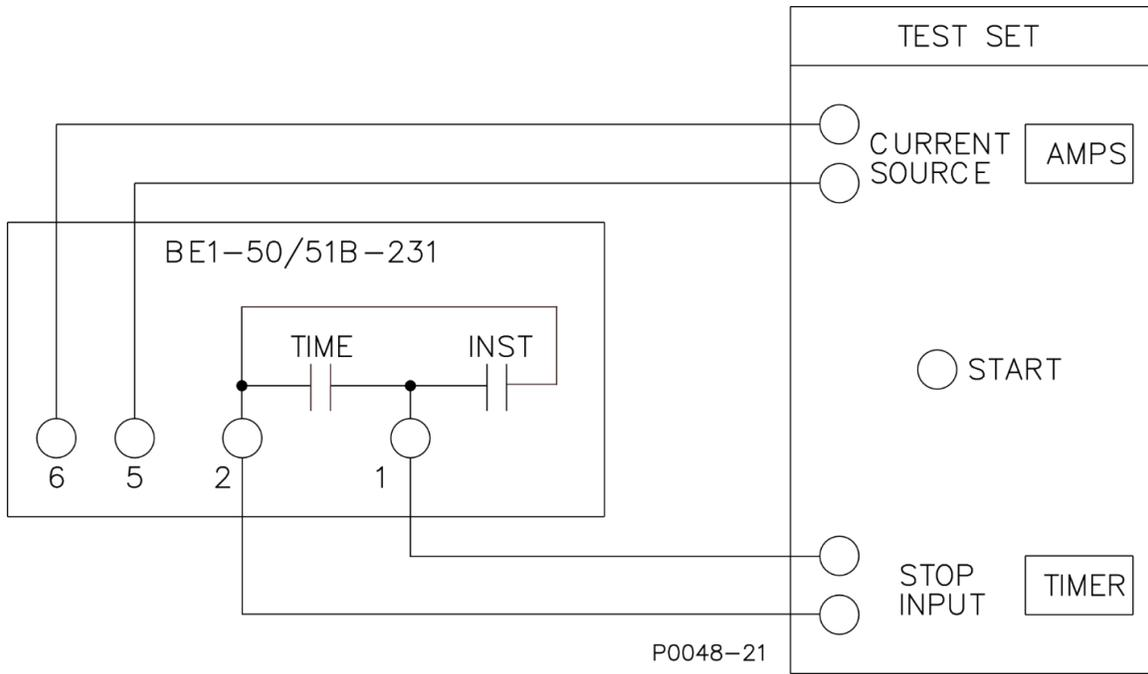

Figure 5-1. Pickup and Timing Test Setup
The following procedures verify operation of relays BE1-50/51B-231. The test setup of Figures 5-1 and 5-2 are intended primarily as an illustration of the principles involved. Other test setups known to be capable of testing with the stated and implied tolerances (including equipment specifically designed for testing relays) may be used.
- Connect test setup as shown in Figure 5-1.
Single-phase relays such as the BE1-50/51B-231 are normally used in groups of four (three phase and ground) on the protected circuit. This relay scheme allows each unit to be withdrawn one at a time for testing purposes without losing protection. Only three are required at any one time to sense all types of faults on a grounded wye system. Refer to Figures 5-1 and 5-2 for recommended test setups.